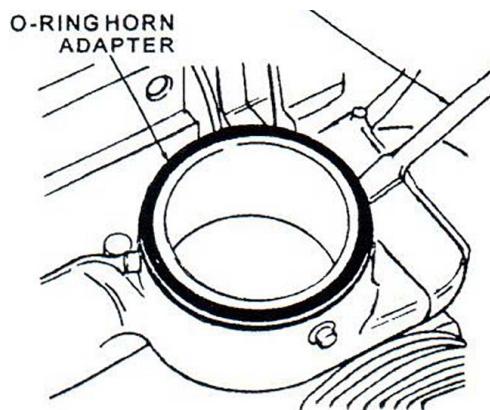

Figure 12. O-ring Horn Adapter Removal
- A. See Figure 12. Remove the o-ring horn adapter using a flat blade screwdriver between the gasket and base pan. Twist the blade while prying the adapter upward.